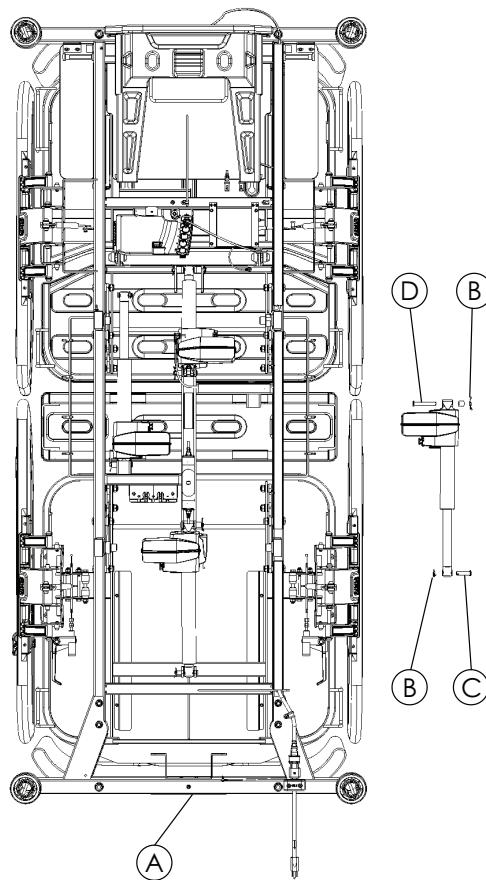

Figure 5 – Head end lift actuator
2. Support the head end litter cross brace (A) to support the head end litter (Figure 5).
6. Using needle nose pliers, remove and discard the rue ring cotter pins (B) from each clevis pin (Figure 5).
7. Using one hand, support the head end lift actuator and remove and discard the head end clevis pin (C) then allow the head end lift actuator to pivot down (Figure 5).
8. Using one hand, support the head end lift actuator and remove and discard the foot end clevis pin (D) and spacer (Figure 5).